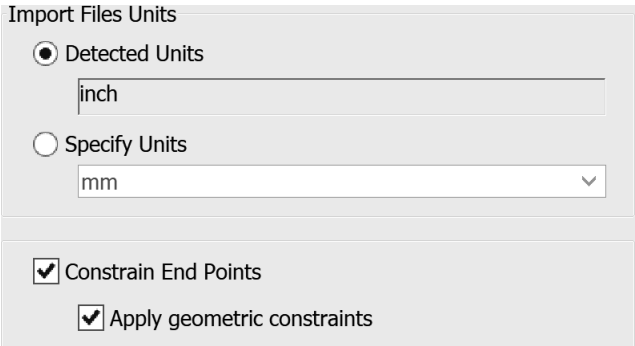

Figure 2.93
- 11** Check the Constrain End Points and the Apply geometric constraints options as shown in Figure 2.93.